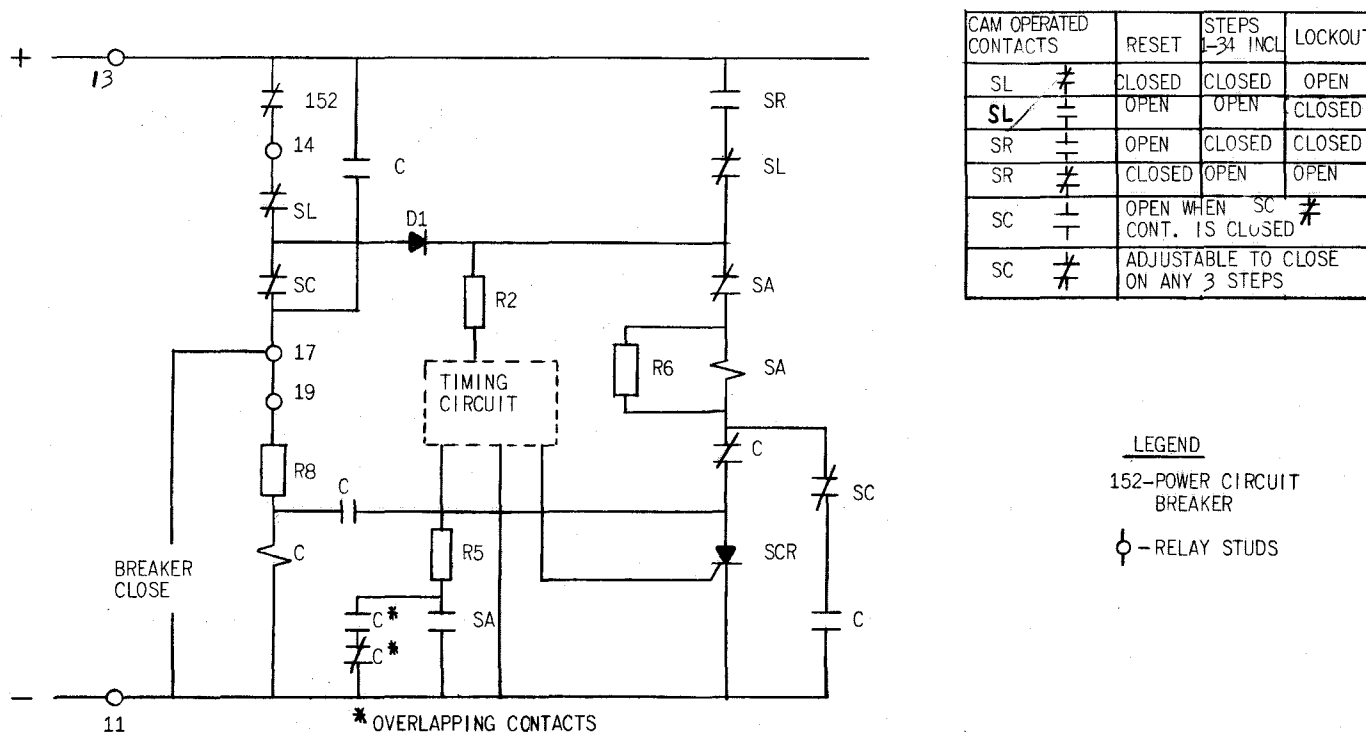
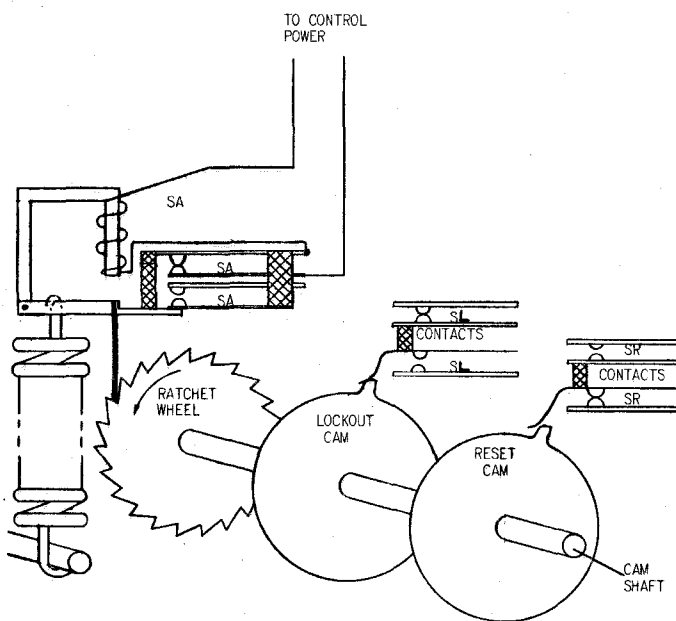

Fig. 4B (0178A9146-0) Breaker Reclosing Circuit With Contact Shown As They Are In Reset Position For Instantaneous First Reclosure.
Fig. 5 (0178A9144-0) Stepping Switch For NLR Relays
In the NLR relay when the timing circuit turns the SCR on, it operates the stepping switch armature. The armature movement opens one "SA" contact and closes another "SA" contact as shown schematically in Fig. 4 and Fig. 5. The opening of the SA contact turns the SCR off and the closing of SA contact completely discharges the capacitor C1 to reset the timing circuit. When the armature picks up it also raises the driving spring enough to clear the next tooth on the ratchet wheel and the driving spring snaps into the next notch. When the SCR is turned off by the SA contact the armature coil is de-energized and its main spring rotates the ratchet wheel 10 degrees. At this point the timing circuit starts timing again and it will rotate the stepping switch ratchet wheel another 10 degrees after another time interval has elapsed. All stepping switch operations will have the same time interval.
The ratchet wheel of the stepping switch is solidly connected to a cam shaft which contains three main cams. The two cams nearest to the ratchet wheel (schematically shown in Fig. 5) have
only one lobe each and therefore raise their associated contact operating springs only during one step interval for each revolution of the ratchet wheel. A third cam (not shown in Fig. 5) has 3 adjustable lobes and these lobes may be set to raise their associated contact operating spring on any desired step. When the adjustable cam lobes raise their contact operating spring they close two "SC" contacts shown in Fig. 4B and one of these supplies the breaker closing signal. Since the adjustable cam lobes can be set to close the "SC" contact on any step of the ratchet wheel they can provide a breaker closing signal at reset (an instantaneous breaker reclosing signal) and - or on any subsequent step until the lockout position is reached which is 35 steps after reset. The schematic diagram Fig. 5 shows the ratchet wheel in the lockout position. In this position the (SL) lockout cam opens its SL contacts to open up the breaker closing circuit and the timing circuit (which prevents any further operation of the stepping switch until the breaker is manually closed as explained later) and closes an SL contact to ring an alarm. When the stepping switch armature coil is energized again, the switch steps from lockout to the reset position (as explained later).
Fig. 4B shows the NLR breaker reclosing circuit with the NLR in the reset position and set for instantaneous first reclosure. In the reset position the SL contacts are closed, but the SR contacts are open so there is no circuit connecting the timer to power until the breaker (152) trips and closes its N.C. auxiliary switch. This energizes the breaker closing circuit and the "C" relay coil thru the preclosed SC contact and the timing circuit thru the blocking diode, "D1". The "C" relay steps the stepping switch once immediately and seals in to maintain the closing signal for one step interval. The instantaneous step is to prevent pumping the breaker if control power is lost and then returns and also to open the instantaneous trip blocking contact (1-2). The "C" relay maintains the closing signal to prevent a second closing impulse if the breaker trips during the step time interval. At the end of the first time interval the "C" relay is shorted out by the SCR and drops out. Its overlapping contacts discharge the capacitor C1 to reset the timing circuit. When the "C" Relay picks up the stepping switch closes its "SR" contacts at once and then the timer continues to run whether the breaker is open or closed since both the SR and SL contacts are closed and they provide a circuit to the timer. After the "C" relay drops out the stepping switch continues with equal elapsed time between steps until its ratchet reaches the step in which the lobe on the adjustable cam again closes the SC contact. At this point if the breaker is open the NLR will close it and if the breaker is closed no closing signal
will be given to the breaker closing circuit due to the blocking diode shown in Fig. 4B. In either case the stepping switch steps on with equal elapsed time steps to the next reclosing cam location and then closes the breaker if it is open as described above. The stepping switch steps on to the lockout position where the SL contacts open to deenergize the timer and stepping switch and a SL contact closes to sound the alarm if the breaker is open.